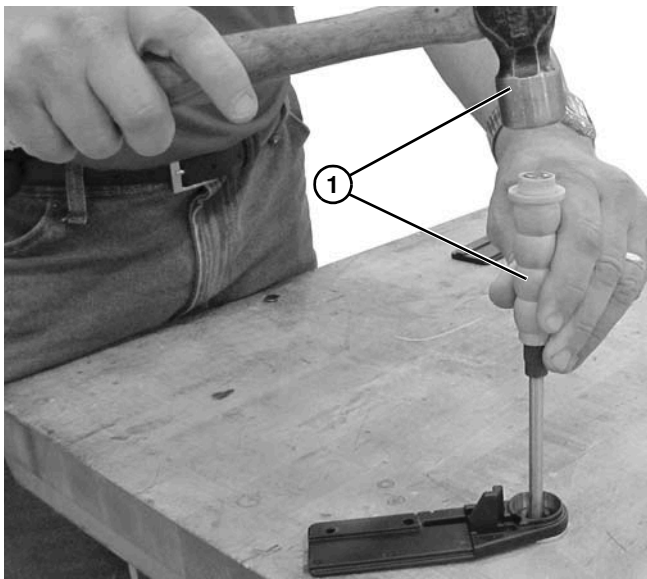
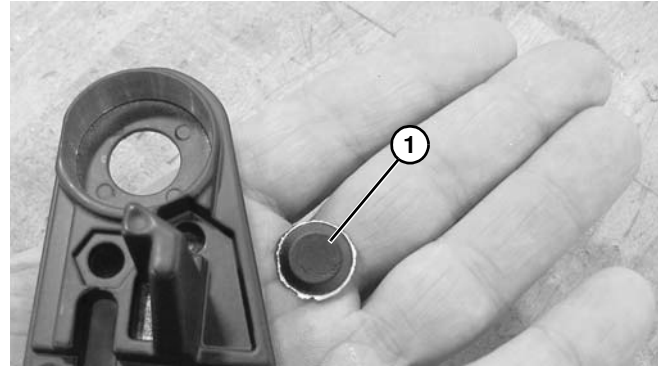

Figure 137
Figure 138
3. Use a hammer and punch (1/4" - 1/2" dia) (**Figure 137, item 1**) or long bolt to knock out slug (**Figure 138, item 1**) for shaft backing up tail plate with washer.